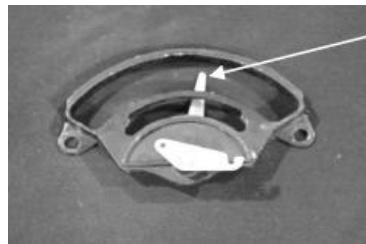

Figure 6
Step 8: Remove stock gear selector pointer. (Figure 6)